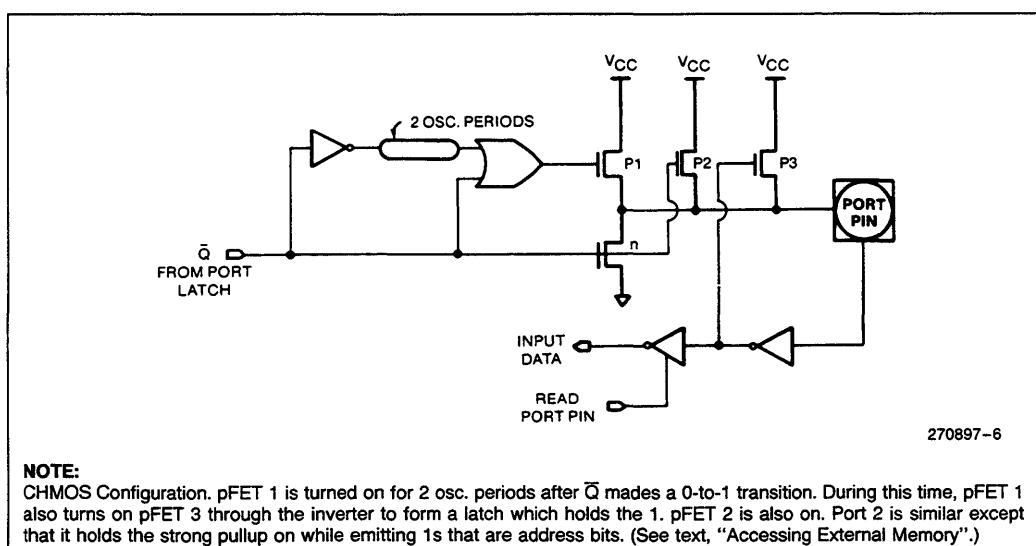

Figure 4. Ports 1, 3, 4, and 5 Internal Pullup Configuration
*See Figure 4 for details of the internal pullup.
If the change requires a 0-to-1 transition in Ports 1 through 5, an additional pullup is turned on during S1P1 and S1P2 of the cycle in which the transition occurs. This is done to increase the transition speed. The extra pullup can source about 100 times the current that the normal pullup can. The internal pullups are field-effect transistors, not linear resistors. The pull-up arrangements are shown in Figure 4.